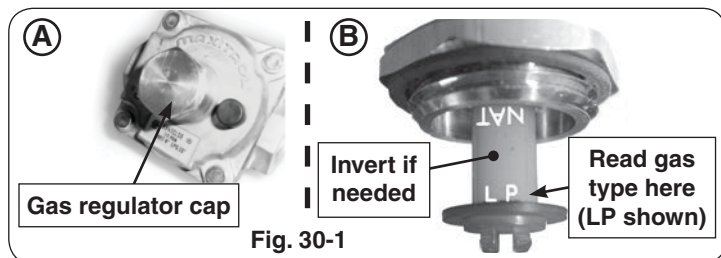
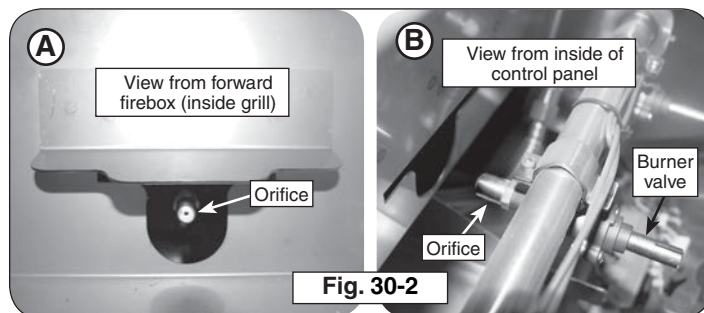

Fig. 30-1
Fig. 30-2
The gas regulator, equipped only on natural gas models and located beneath the grill, must be set for the type of gas used to fuel the grill. To check the regulator setting, remove the cap in the center of the regulator (Fig. 30-1, A). Holding the cap vertical (see Fig. 30-2, B), the letters at the bottom of the plastic stalk indicate the gas type for which the regulator is currently configured.
3. Use a 1/2" hex deep socket nut driver to remove the exposed orifices. Access the orifices through the holes in the forward firebox plate inside the grill (see Fig. 30-2, A). Check orifices. If needed, replace all with the correct orifices for the new gas.
Alternatively, the orifices can be accessed through the inside of the control panel if the proper tool is not available (see Fig. 30-2, B). This allows a 1/2" open-end wrench to be used instead of a 1/2" hex deep socket nut driver. To open the control panel, see the CONTROL PANEL REMOVAL section.